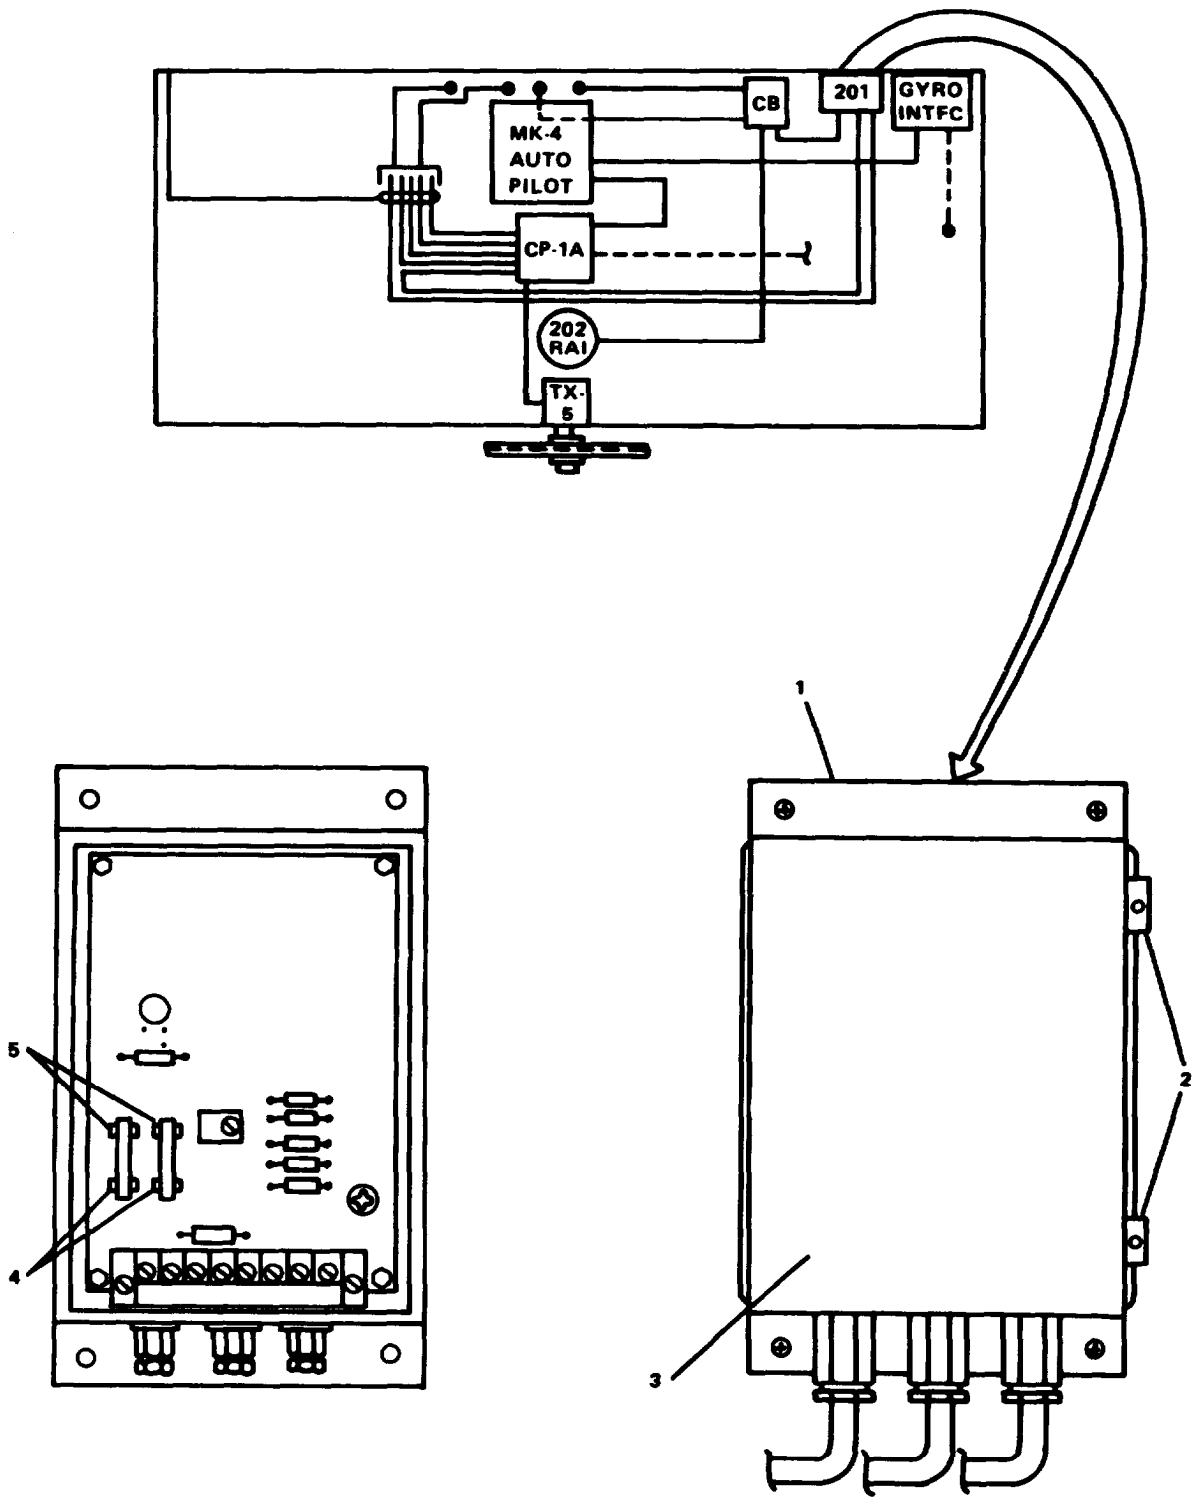

FIGURE 2-93. Junction Box Assembly
**2-115. Repair Junction Box Assembly. (FIGURE 2-93)**